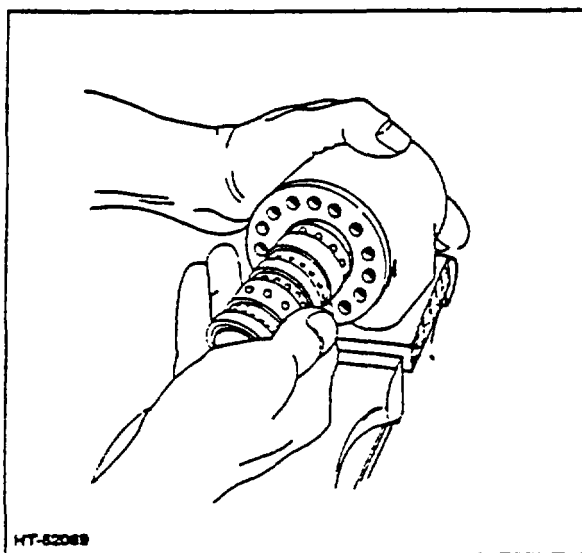

Figure 23. Installing Spool Assembly
- Place the housing on a solid surface with the port face down. Install the spool assembly with the splined end of the spool entering the 14-hole end of the housing first (Fig. 23). Push parts gently into place with a slight rotating motion.